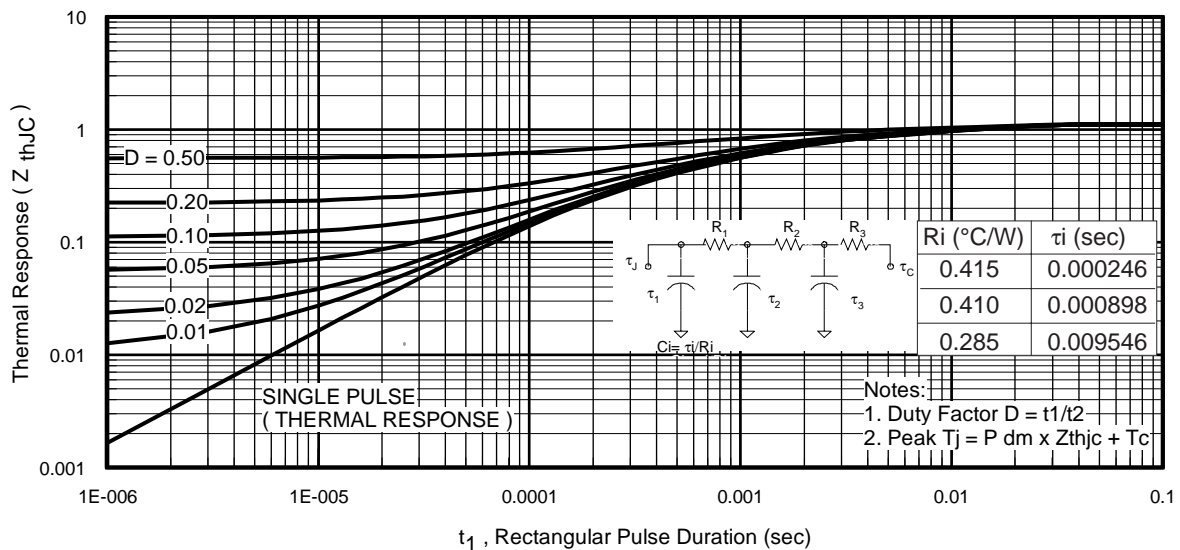
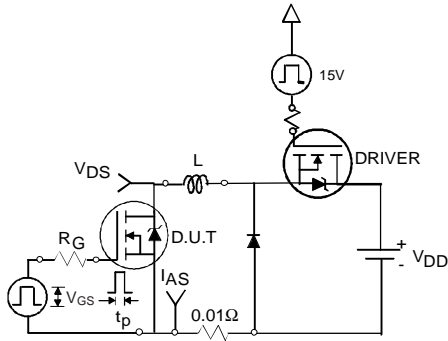

Fig 11. Maximum Effective Transient Thermal Impedance, Junction-to-Case
Fig 12a. Unclamped Inductive Test Circuit
- ① Repetitive rating; pulse width limited by max. junction temperature. (See fig. 11).
- ② Limited by T_{Jmax}; starting T_J = 25°C, L = 0.077mH, R_G = 25Ω, I_{AS} = 51A, V_{GS} = 10V. Part not recommended for use above this value.
- ③ I_{SD} ≤ 51A, di/dt ≤ 260A/μs, V_{DD} ≤ V_{(BR)DSS}, T_J ≤ 175°C.
- ④ Pulse width ≤ 1.0ms; duty cycle ≤ 2%.
- ⑤ C_{oss eff.} is a fixed capacitance that gives the same charging time as C_{oss} while V_{DS} is rising from 0 to 80% V_{DSS}.
- ⑥ Limited by T_{Jmax}, see Fig.12a, 12b, 15, 16 for typical repetitive avalanche performance.
- ⑦ This value determined from sample failure population. 100% tested to this value in production.
- ⑧ This is applied to D²Pak, when mounted on 1" square PCB (FR-4 or G-10 Material). For recommended footprint and soldering techniques refer to application note #AN-994.
3. Equation below based on circuit and waveforms shown in Figures 12a, 12b.
$Z_{thJC}(D, t_{av})$ = Transient thermal resistance, see figure 11)